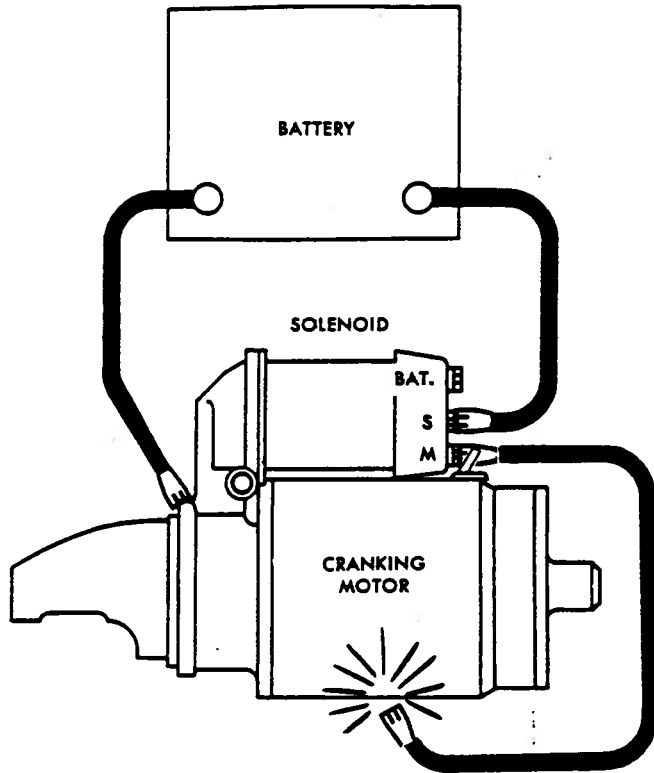

Figure 8-8. Circuit for Checking Pinion Clearance
2. Connect 12-volt battery from solenoid switch terminal to starting motor frame. Refer to figure 8-8.